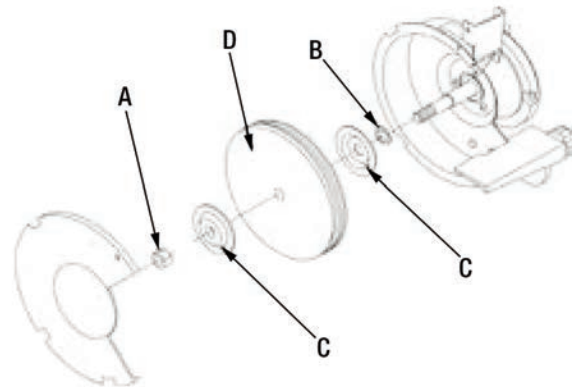

FIGURE 8
Both wire wheels and buffing wheels can be used with this bench grinder. These wheels may vary in thickness, and you may need to add spacers to ensure the arbor hex. nut (A) Fig.8 tightens properly. The correct placement of the spacer(s) (B) is shown in Fig.8.